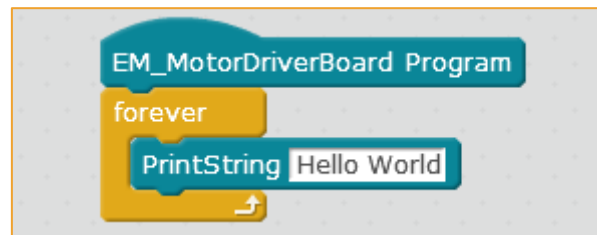

Figure 2-8
- 3) Drag the “Serial Print String” block into the repeating building block in MotorDriverBoard building block and enter “Hello word” as shown in Figure 2-8.